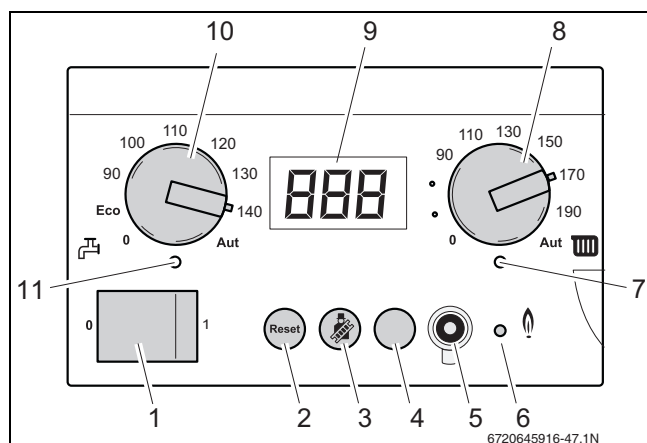

Fig. 73 BC10 basic controller
- Set the upper space heating water temperature limit for heating mode with the "space heating water temperature" knob (→ fig. 73, [8]) (→ table 19). This limitation does not apply to DHW preparation.
- Set the DHW temperature knob (→ fig. 73, [10]) to the required temperature of the hot water in the hot water cylinder (→ table 20).
- ▶ Switch OFF the appliance by pressing the main switch of the BC10 (→ fig. 73, [1]).
- ▶ Switch off OFF appliance by pressing the main switch of the BC10 (→ fig. 73, [1]).